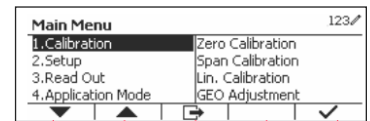

Figure 8
1. Long press the  button to enter Main Menu. (See Figure 8)